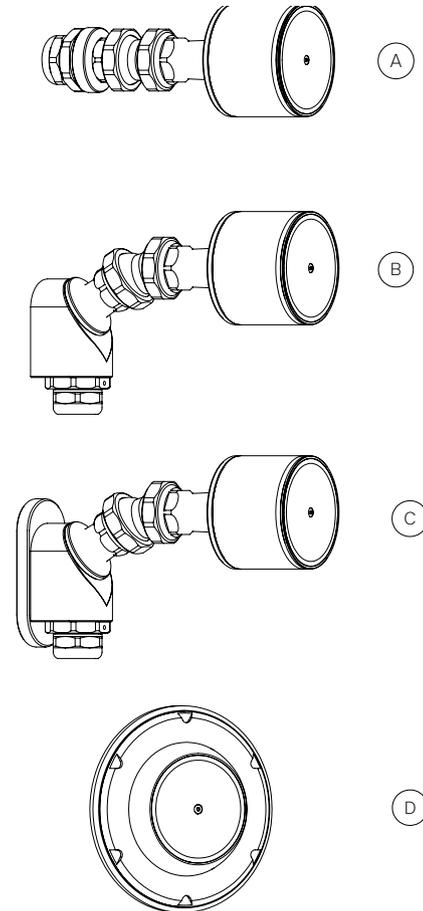

Figure 6
- The flex arm mount (trough-wall mounting) (Fig. 6-A) is ideal for installation in a sheet metal wall with a direct supply line feed-through.
- The flex arm mount (pre-wall mounting) (Fig. 6-B) can be flexibly mounted on sheet metal walls or in solid materials, even in places where
- The flex arm mount (magnetic mounting) (Fig. 6-C) is ideal for simple and quick mounting without modification to the machine tool, in particular for tests or selecting a suitable installation location. For permanent installation, fixed mounting is recommended. To do this, remove the magnetic shoe; the holder then corresponds to the "pre-wall mounting" version.
- The ball head mount (Fig. 6-D, shown without tool and without counter holder) is designed for installation in a sheet metal wall. Thanks to its flat and chip-repellent contours, comparatively few chip nests occur when using this mount. The holder has a spherical cup holder that makes it compatible with all camera head variants. The maximum inclination is  $\pm 20^\circ$  to the axis of the drill hole. The camera head can be mounted with an orientation of 0–360°.